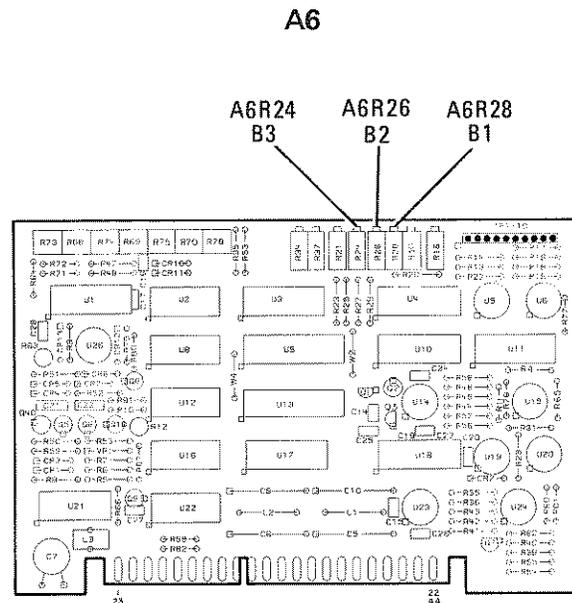

Figure 5-26. Band Overlap Adjustment Locations
7. Adjust A6R28 (B1) to bring the right side pip over to the bandswitch point so that the right half of this pip mates with the left half of the other as shown in Figure 5-27. Refer to Figure 5-26 for the adjustment location. The pip should be undisturbed as it moves through the bandswitch point.